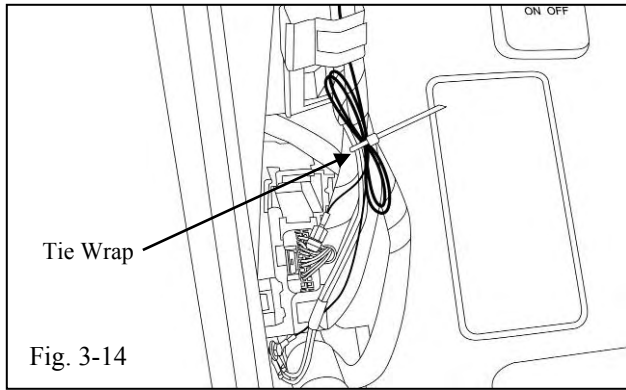

Fig. 3-14
- (o) Secure EC mirror harness wire to OE wire bundle in cowl area with one (1) tie wrap. (Fig. 3-14)